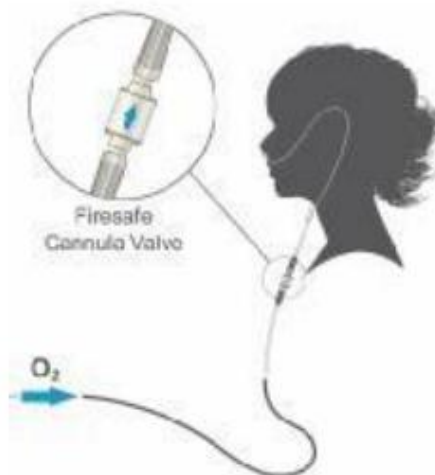

Figure 3-3 Fire safety valve installation position
3. Connect the Fire safety valve (accessories) and the nasal oxygen cannula to the oxygen outlet. (See Figure 3-3)